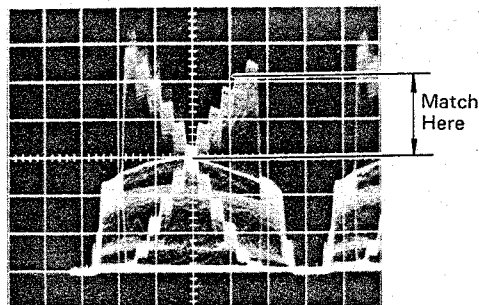

Fig. 6-4-43
- Connect the oscilloscope to TP308(R) and TP309( $Y_L$ ).
- Adjust RED TRACKING-3 VR310 so that the R signal matches the  $Y_L$  signal in the 8th~9th step of gray scale waveform. (Fig.6-4-43)